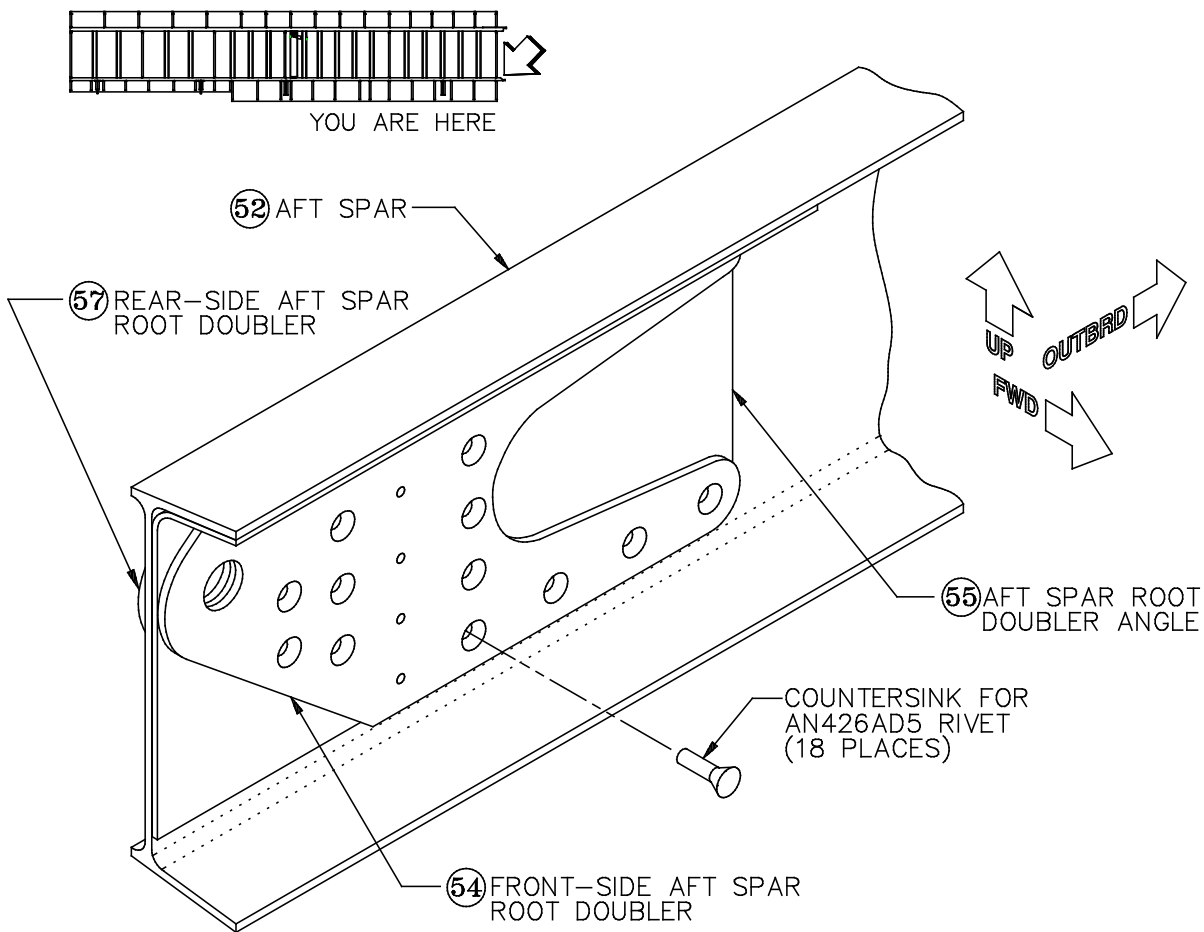

Figure 18: Countersinking the Rivet Holes
E) Disassemble all the parts and deburr all the holes. Countersink the 5/32" diameter holes on the **forward face** of the **front-side aft spar root doubler** for (AN426AD5) flush head rivets, as shown in Figure 18. (Flush head rivets are used to provide clearance for the fuel tank.) **Do not countersink the five holes where the root ribs attach.**
- c) Rivet the aft spar root doublers and doubler angle to the aft spar using 5/32" (AN426AD5) flush head rivets. Place the heads of the rivets in the countersinks on the forward side of the doubler. **Do not rivet the holes for the root ribs** (these are the five holes that were **not** drilled up to 5/32"). See Figure 18.